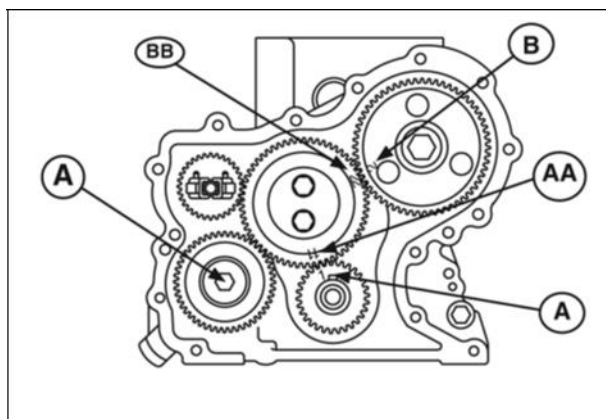

Figure 16
6. Assemble idler gear shaft with arrow up (B, Figure 16).